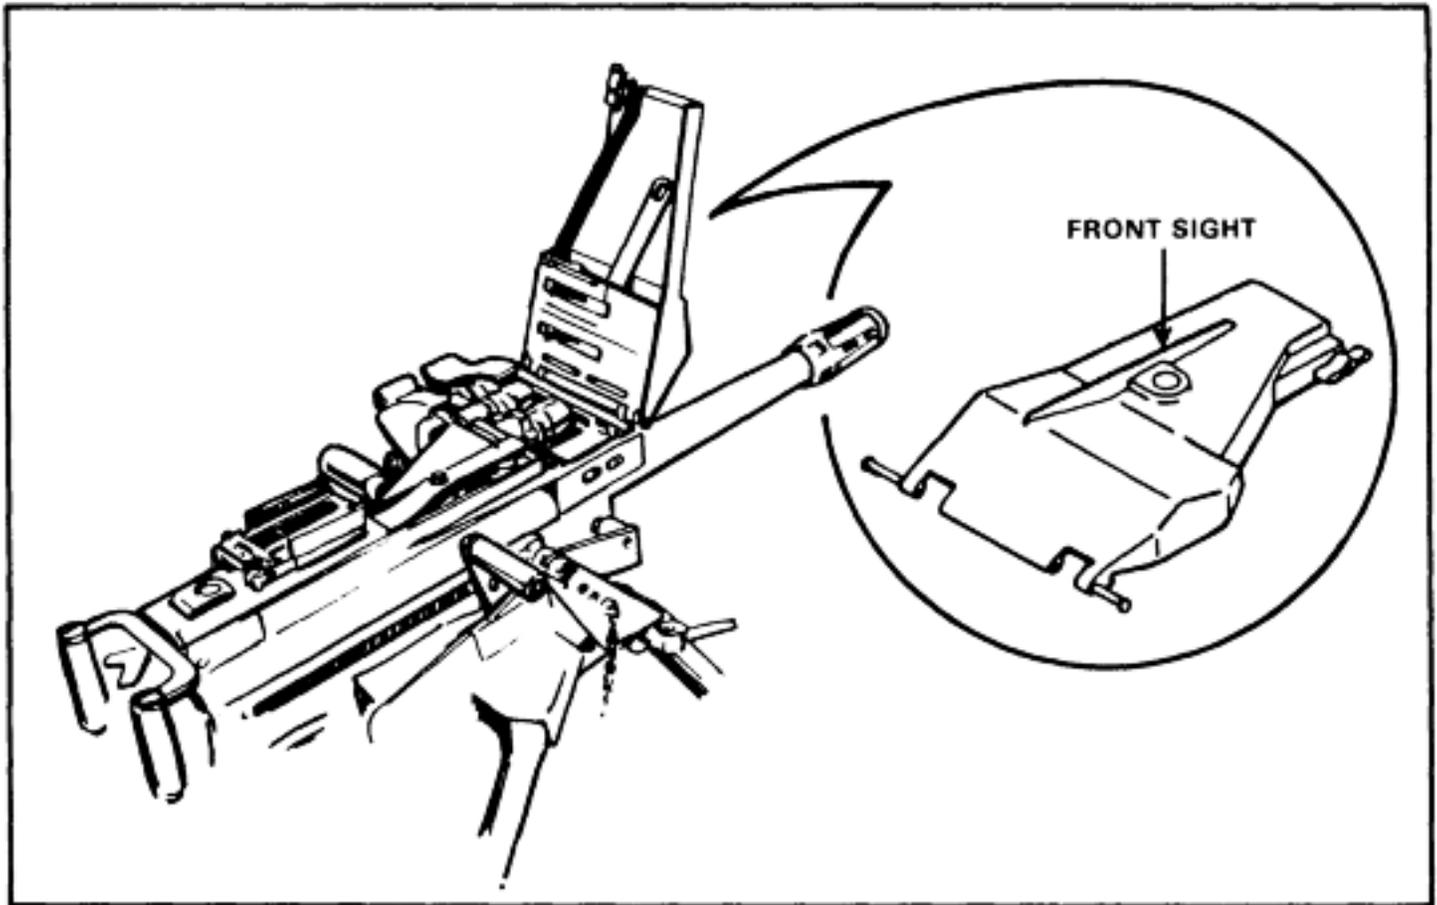

Figure 1-3. Front sight on top cover assembly.
b. It has a blade-type front sight attached to the top cover assembly (Figure 1-3).